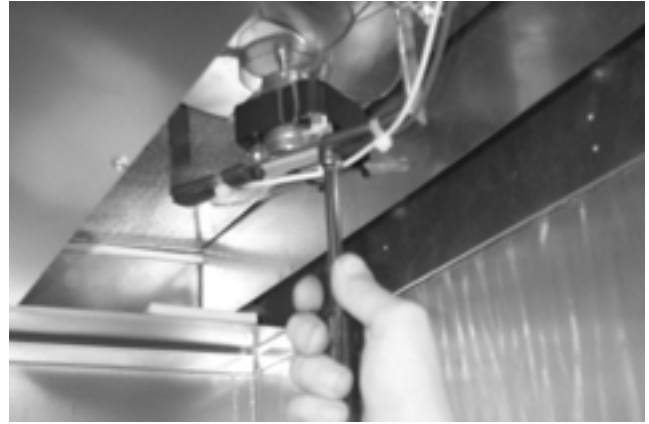

Figure 4-7
3. Using a 1/4" nut driver, remove the (2) motor mounting screws and separate the motor from the bracket (Figure 4-7).